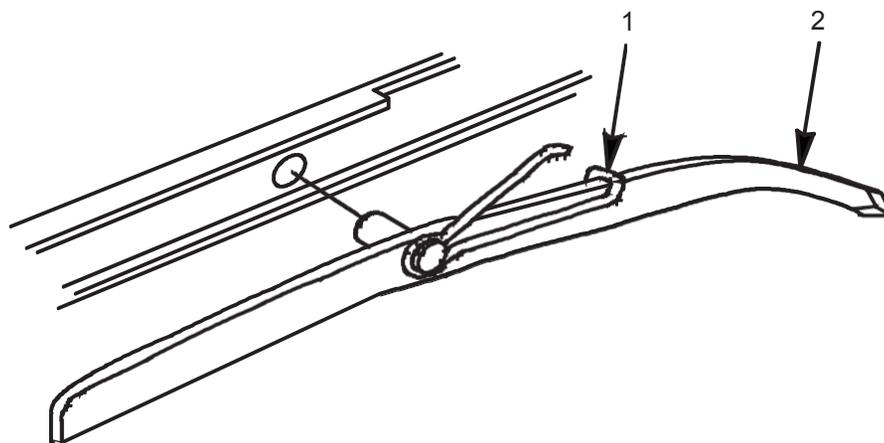

Figure 34. Ejector, Retaining Clip.
9. Position cartridge ejector end of ejector (Figure 34, Item 2) to the front of the receiver and position hooked end of retaining clip (Figure 34, Item 1) behind ejector (Figure 34, Item 2).